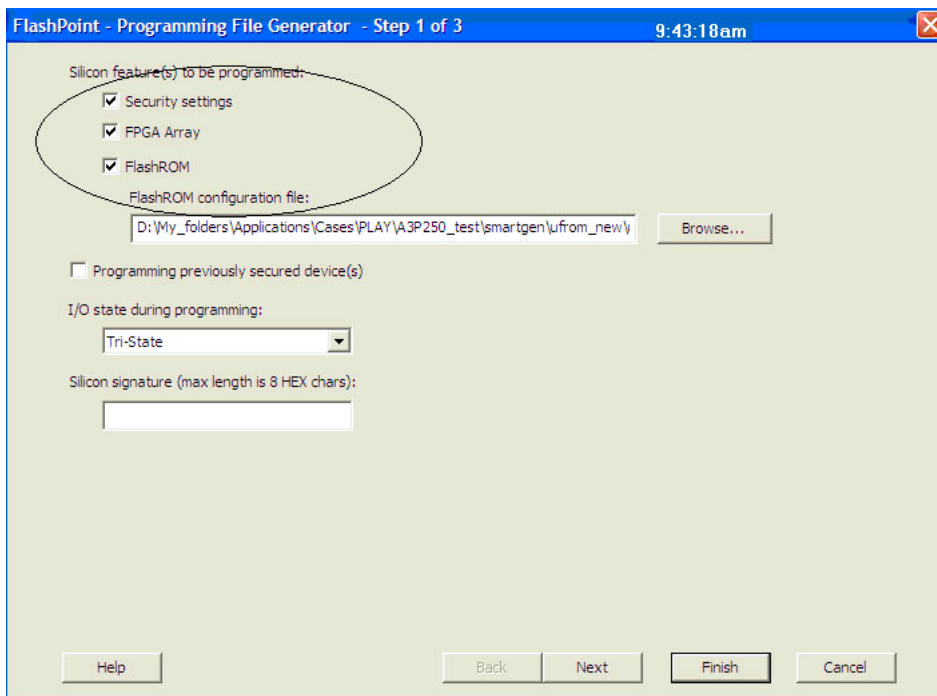
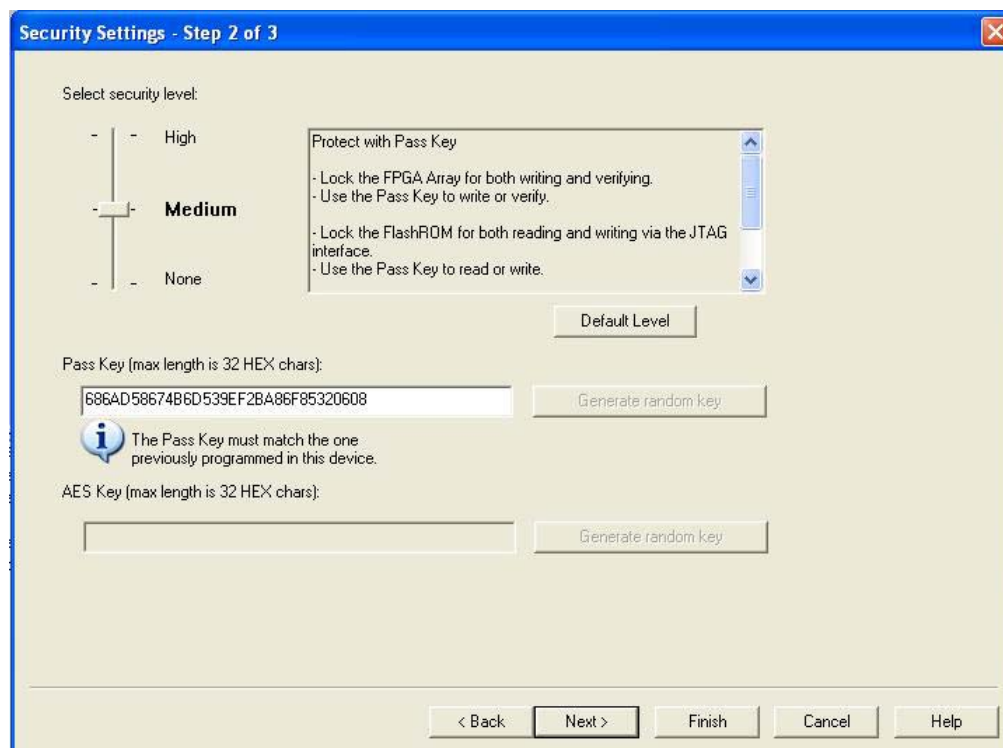

Figure 11-10 • All Silicon Features Selected for IGLOO and ProASIC3 Devices
Figure 11-19 • FlashLock Pass Key, Previously Programmed Devices
1. Select the **Silicon features to be programmed** (Security Settings, FPGA Array, FlashROM, Flash Memory Blocks), as shown in Figure 11-10 on page 248 and Figure 11-11 on page 248. Click **Next**.
Figure 11-10 on page 248 and Figure 11-11 on page 248 show the option **Programming previously secured device(s)**, which the user should select before proceeding. Upon going to the next step, the user will be notified that the same FlashLock Pass Key needs to be entered, as shown in Figure 11-19 on page 256.
It is important to note that when the security settings need to be updated, the user also needs to select the **Security settings** check box in Step 1, as shown in Figure 11-10 on page 248 and Figure 11-11 on page 248, to modify the security settings. The user must consider the following: